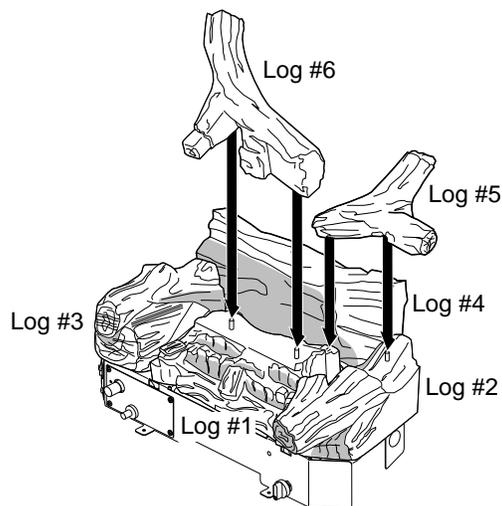

Figure 26 - Installing Log #5 and Log #6 (Model VRL30NR Shown)
6. Place log #6 onto two pins on log #1 (ember bed) and rest back of log #6 on back log #4 (see Figure 26).